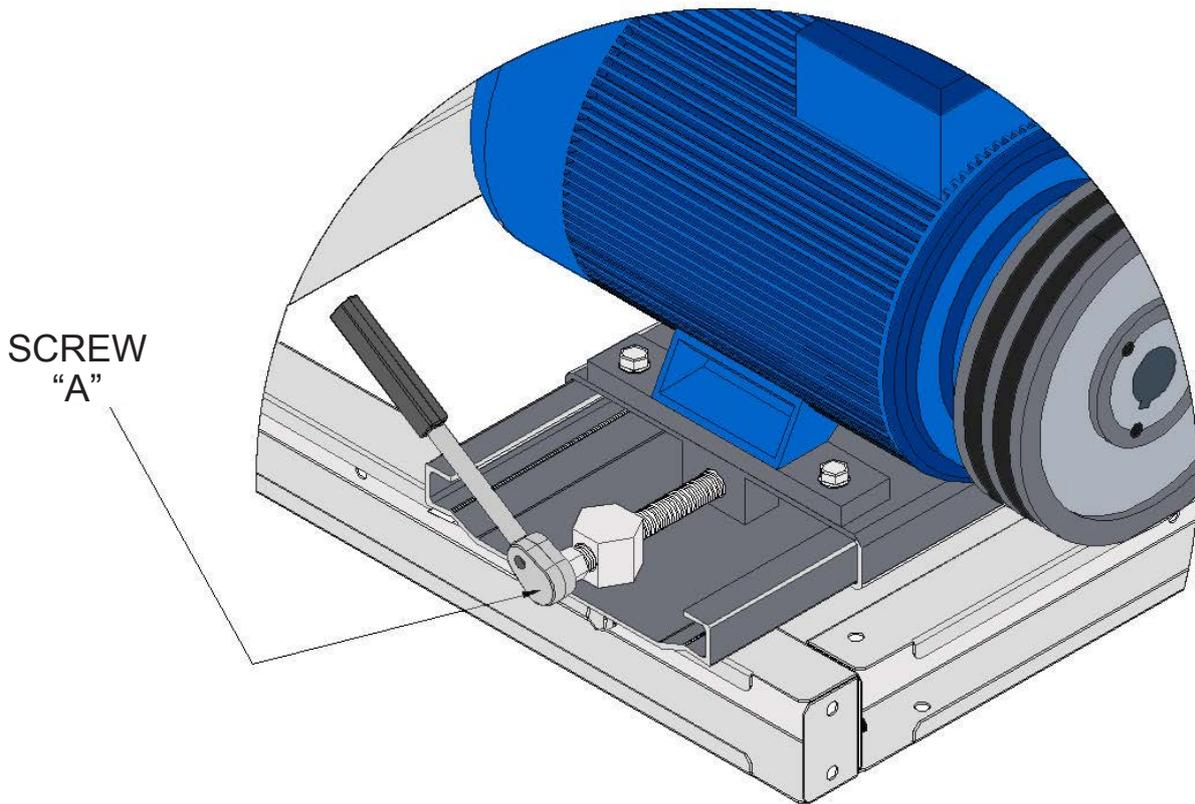

Fig. 9
5. if "C" value is lower (belt is too tensioned) adjustment through screw "A" (see Fig. 9) by reducing distance between motor and fan, if "C" value is larger (belt is not much tensioned) is necessary, always through screw "A", to increase the distance between motor and fan;